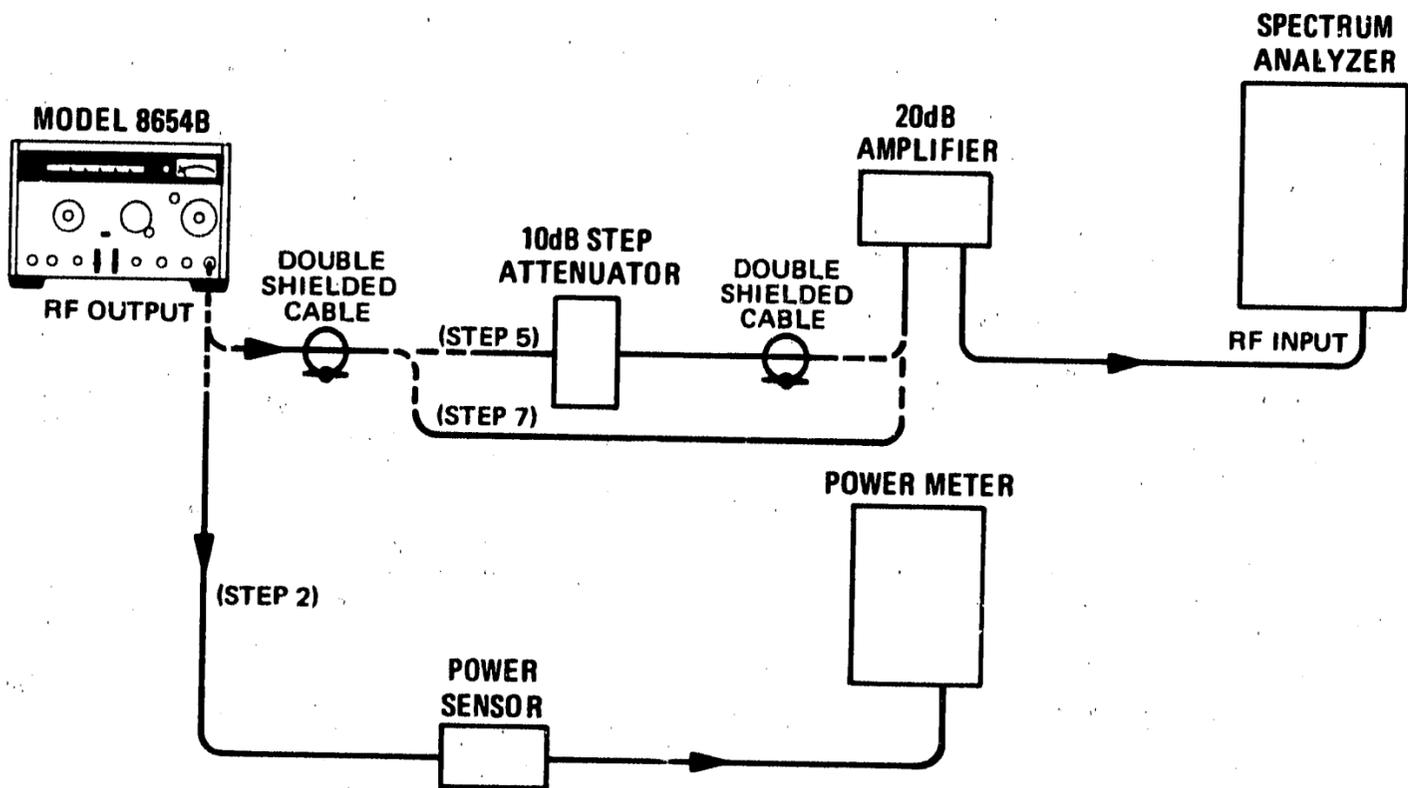

Figure 4-3. Output Level Accuracy Test Setup
- Connect attenuator, amplifier, and spectrum analyzer together as shown in Figure 4-3, without disturbing generator controls. Center signal on display. Consider center horizontal scale equivalent to +3 dBm. With vertical reference level vernier, set signal peak to be equal to last measured level on power meter.